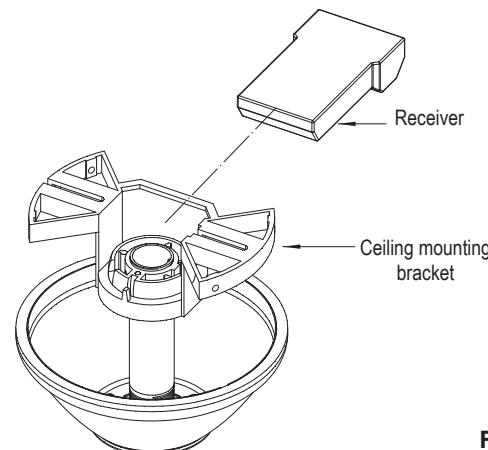

Fig. 11
**Step 1.** Insert the receiver into the ceiling mounting bracket with the flat side of the receiver facing the ceiling. (Fig. 11) For best performance, make sure the Black Antenna, on the end of the receiver, remains extended and not tangled with any of the electrical wires.